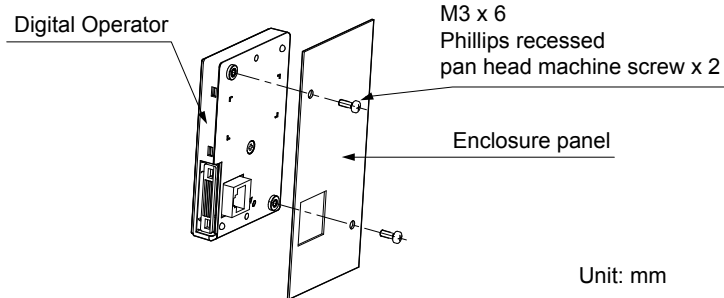

Figure 2.13 External/Face-Mount Installation
2. Position the digital operator so the display faces outwards, and mount it to the enclosure panel as shown in Figure 2.13.